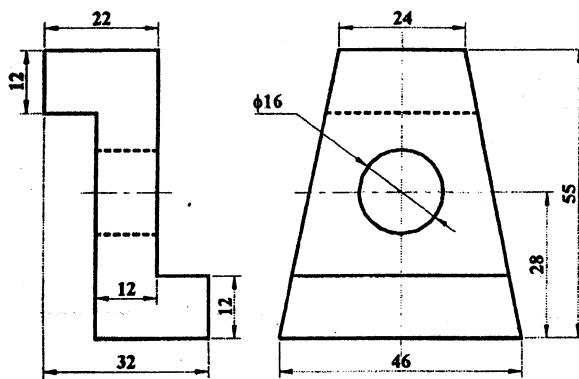

Figure P.1
1. Orthographic views of an object are shown in Figure P.1. Draw its isometric view. [9]
1. Draw isometric drawing from the given orthographic views as shown in **Figure P.1**. [10]